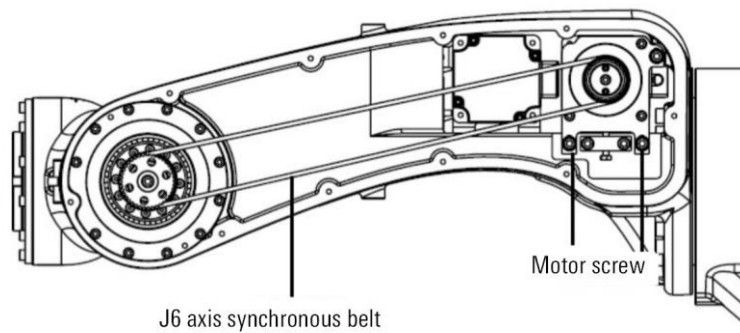

Figure 12-9 Diagram of replacing J6 axis synchronous belt
- Step8. Loosen the mounting screws of the J6 motor assembly, as shown in Figure 12-9, move the motor pulley assembly, remove the old synchronous belt, and install the new synchronous belt.